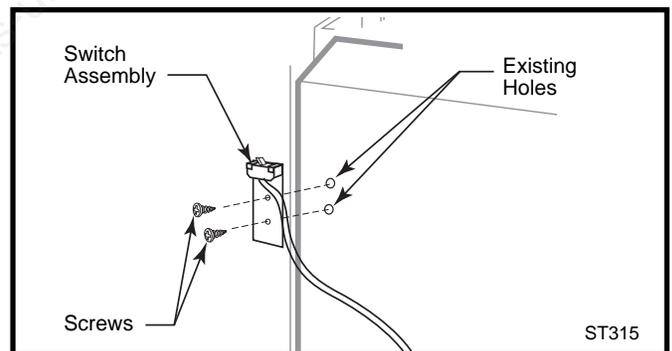

Fig. 15 Attach switch assembly to rear shroud.
1. Attach switch assembly to left rear side of stove shroud using two screws and existing holes in shroud. (Fig. 15)